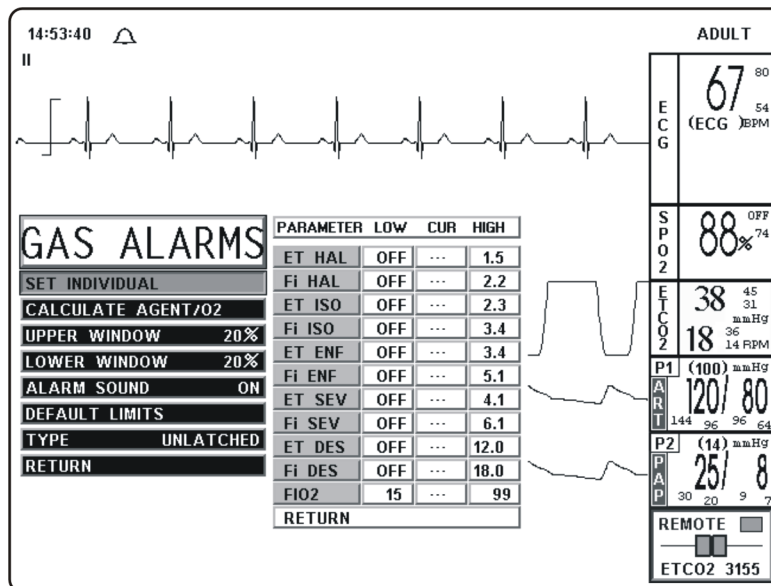

Figure 6-2. Anesthetic Agents Alarm Limits Menu
- i. **GAS ALARMS.** Selecting this menu option will bring up the GAS ALARMS (Anesthetic Agent Alarm Limits) Menu (See **Figure 6-2**). All the Alarm Limits associated with the Anesthetic Agent System are adjusted in this menu. The following is a description of the GAS ALARMS Menu: